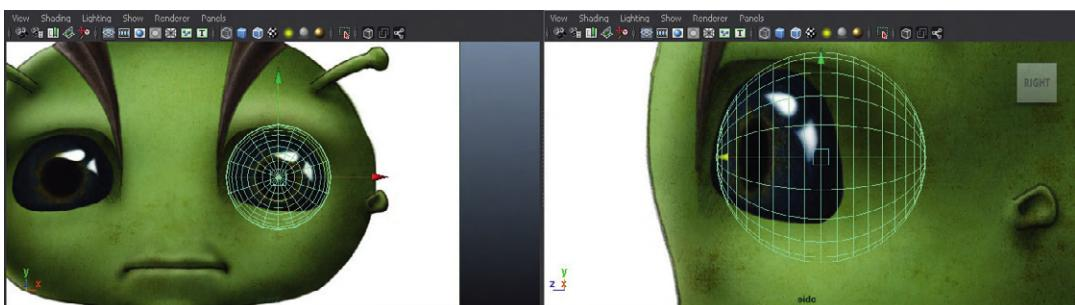

FIG 4.4 Creating the basis of the eye.
Step 12: Create the eyeball. Do this by creating a polygonal sphere (Create > Polygon Primitives > Sphere). Rotate it 90 in X (probably most easily done in the Channel Box). Scale it and move it, so it appears like Fig. 4.4.